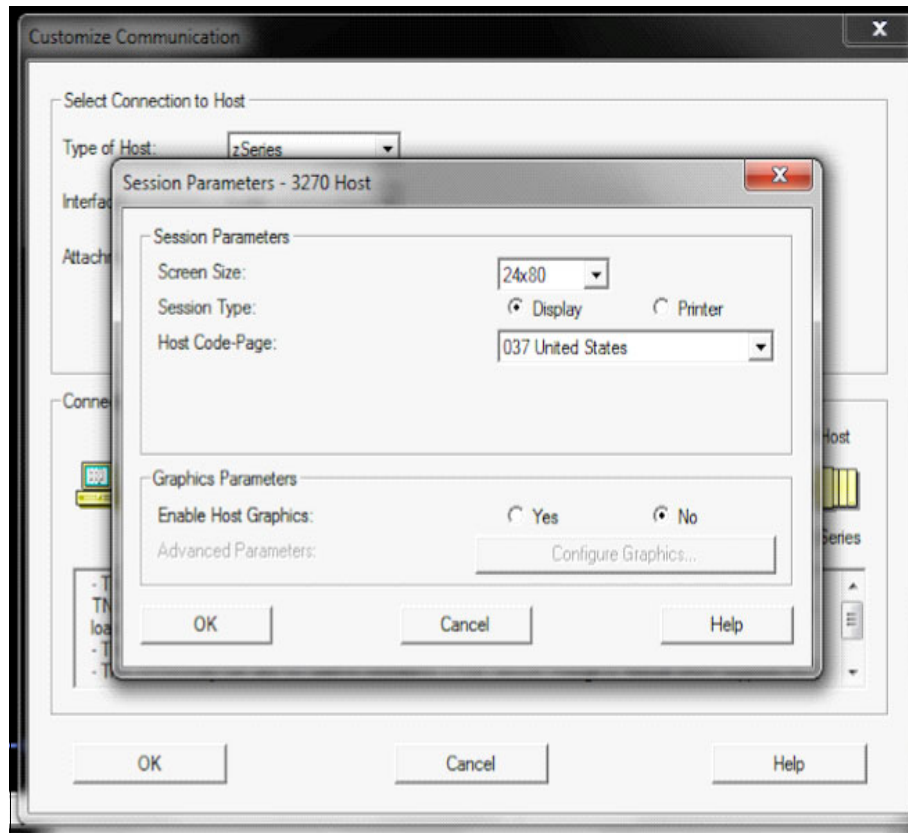

Figure 7-24 Session Parameters
6. The Customize Communication panel is displayed, as shown in Figure 7-24. We click **Session Parameters**.